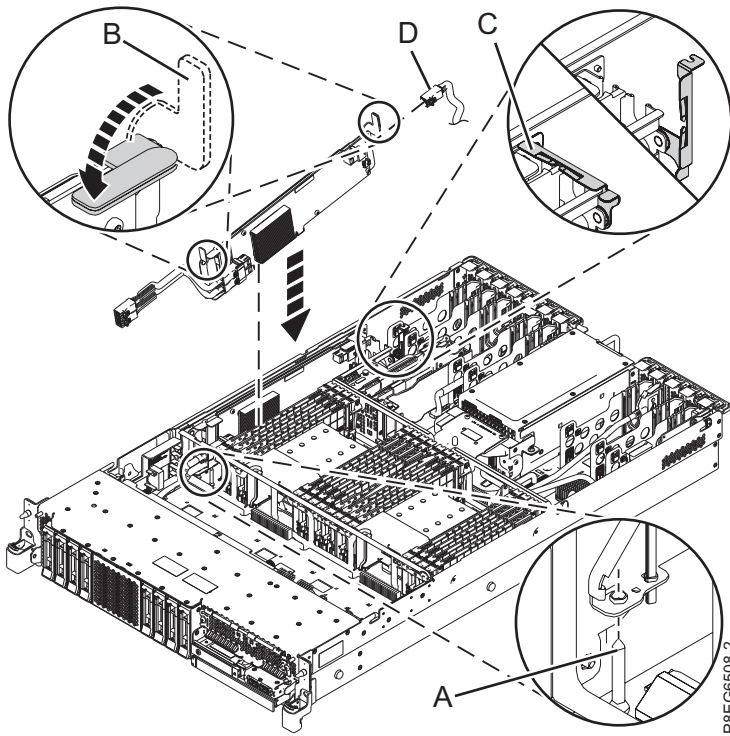

Figure 4. Replacing the SAS RAID adapter
2. Plug the SAS cable into the front connector port on the SAS RAID internal adapter. Push the connector in until the connector latch clicks. The end of the cable that has the manufacturing label plugs into the disk drive backplane. See Figure 4 on page 6.
6. Push the blue handles (**B**) in the direction that is shown in Figure 4.
7. Push the cable retention bracket (**C**) in the direction that is shown in Figure 4.